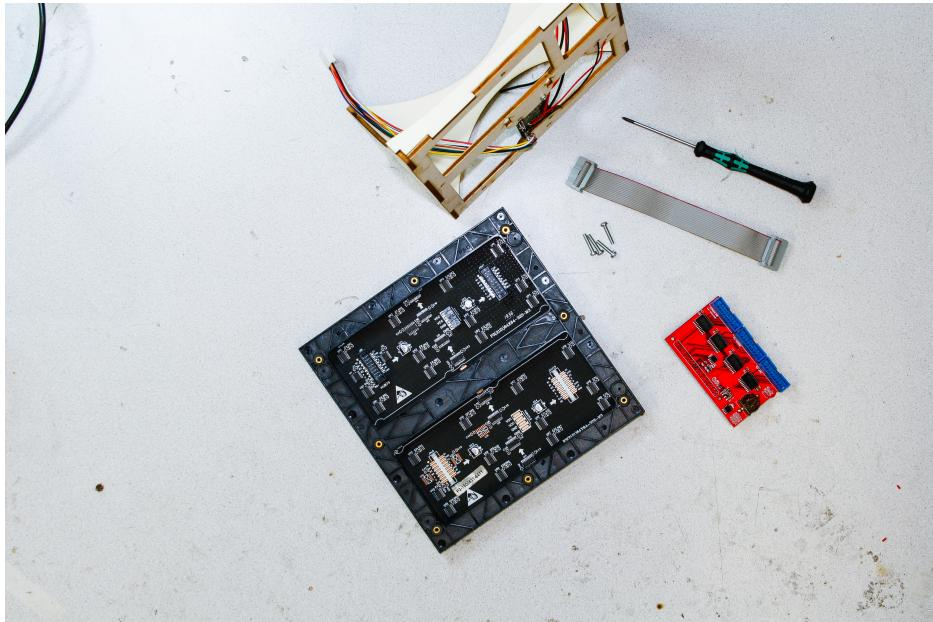

Figure 3.23: Materials to connect the Led Matrix
Step 0 Gather these materials (see Figure 3.23):